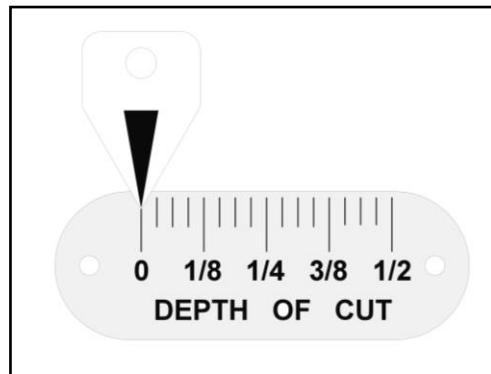

Fig. 6
3. Support the end of the table and at the same time, raise it up slightly. Snug the gib screws. Any adjustment of the gib is very minute, perhaps even 1,000th of an inch. If the gibbs are too tight the adjustment handles will be difficult to turn. If the gibbs are too loose the tables could sag. Keep checking the level of the tables with a straightedge until leveling is achieved. When tables are level (Fig. 6), tighten the lock screws.